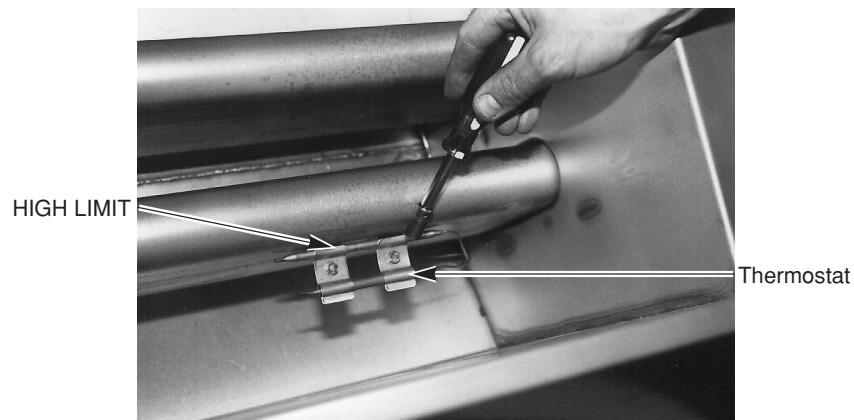

Fig. 23
5. With a ¼" socket, from inside the tank disengage the thermostat bulb from the tank mounting brackets. (Fig. 23)
4. From inside cooker tank with a $\frac{1}{4}$ " socket, remove (2) screws and the bracketing piece holding the limit and thermostat bulbs to the tank. (See Fig. 23)